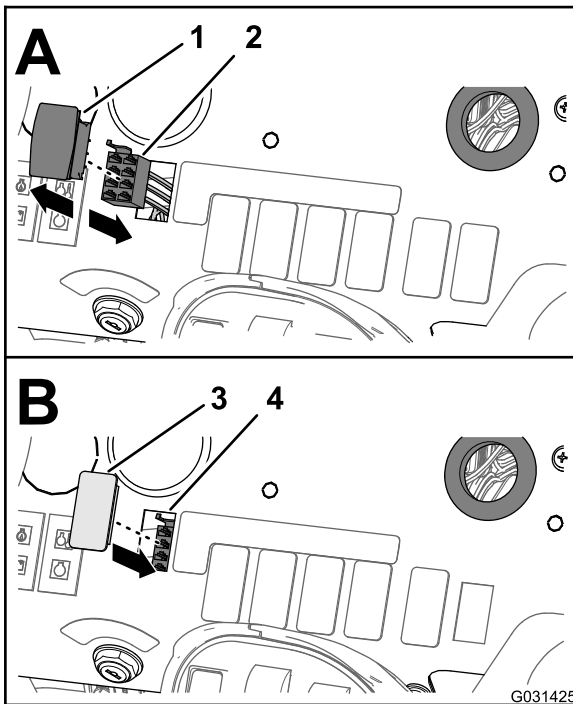

Figure 30
1. From under the dash panel of the machine, squeeze the lock tabs of the rate-control switch together and push up the rate-control switch out of the dash panel (Figure 30).
2. Disconnect the 8-socket connector of the front harness of the machine (labeled **Rate Switch**) from the 8-pin connector of the switch (Figure 30).
4. Align the switch plug to the opening in the dash panel where you removed the rate switch (Figure 30).
5. Insert the switch plug into the dash panel until the plug snaps into the panel securely (Figure 30).